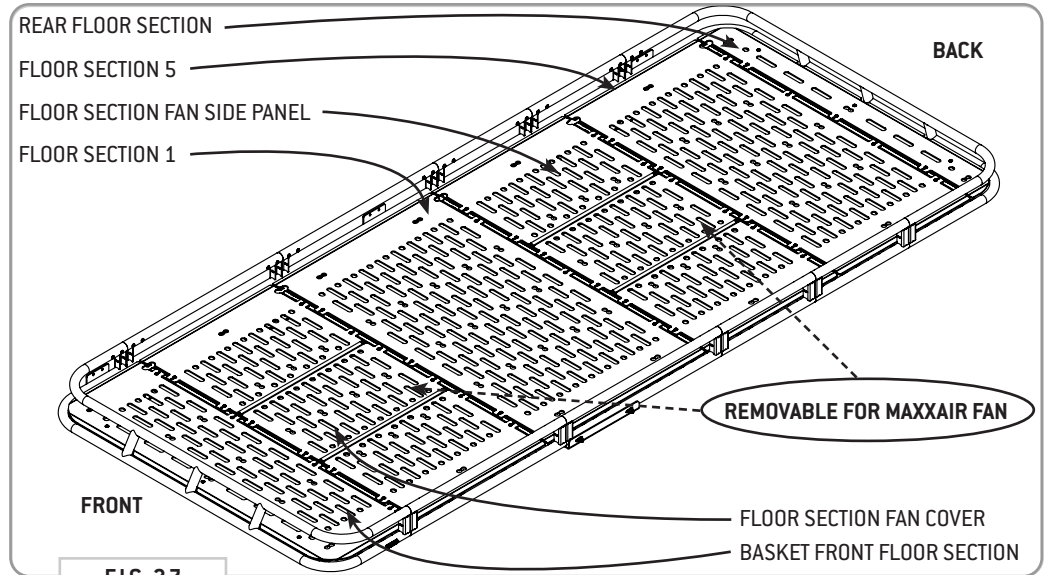
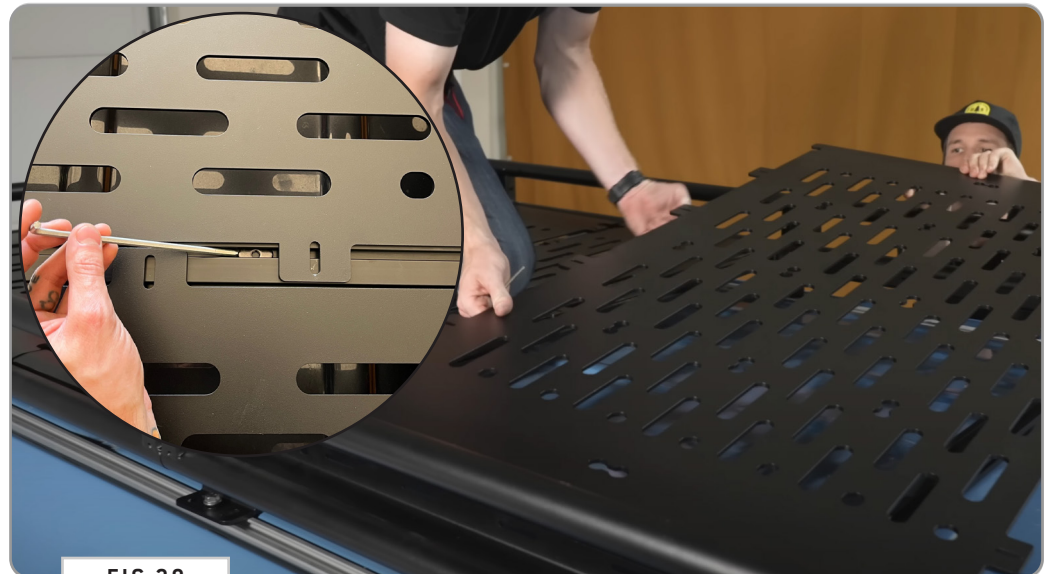

FIG 27
FIG 28
11.1 Install Floor Panels: Begin to layout your **Decking Panels** along the locations shown in **FIG 27**. Adjust the **T-Nuts** as necessary to line up with the available pill slots of the **Decking Panels** (**FIG 28**).